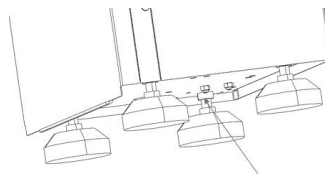

FIG.5
2. Ensure that the charging ports of the robot and the workstation are at the same height. If the workstation is not horizontal, it should be adjusted accordingly. To adjust the height and the levelness of the workstation, the operation can be taken as shown in FIG. 5.
- 1) Loosen the nut indicated by the arrow in Figure 5.